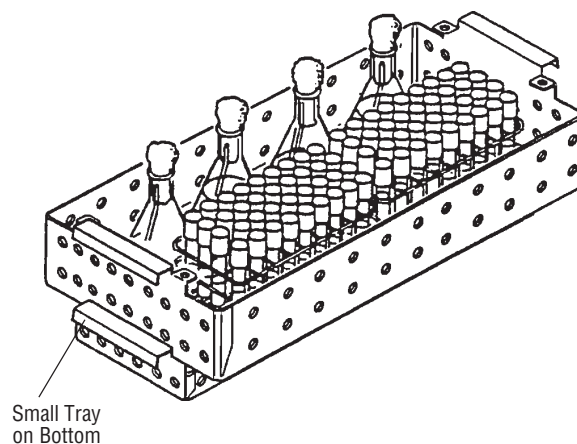

**Figure 3C-27**
2. Verify that the water reservoir is full (water level should be between REFILL and MAX indications on the water level tube, Figure 3C-14). If needed, slowly add distilled or deionized water (minimum resistivity of 1 megohm/cm). Do not overfill. Replace the water reservoir cover.